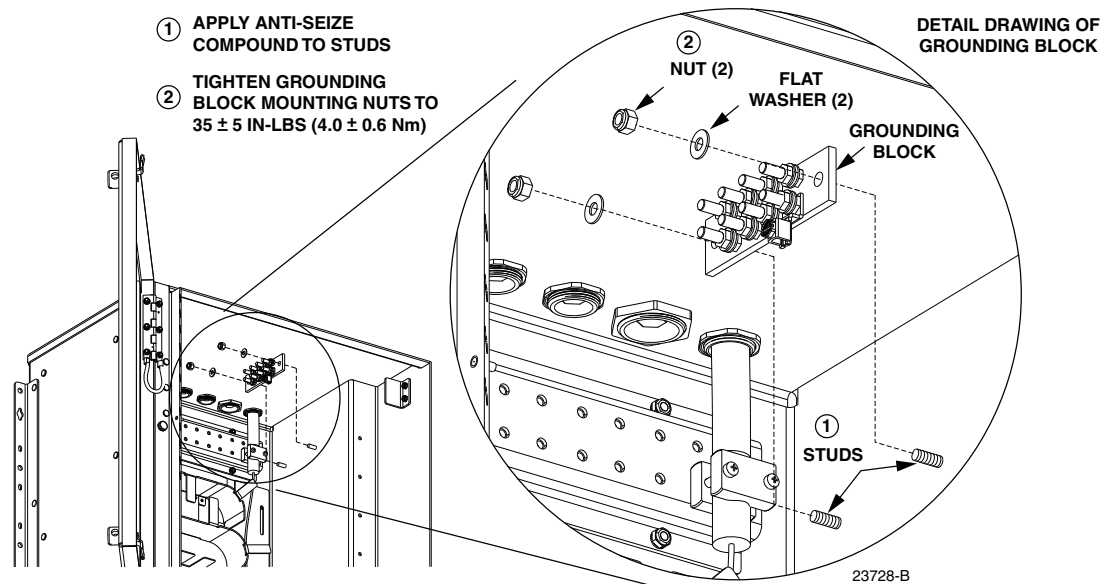

Figure 19. Location of Cable Grounding Block
1. Locate the two studs in the upper right corner of the cabinet as shown in Figure 19 and apply anti-seize compound to the threads.